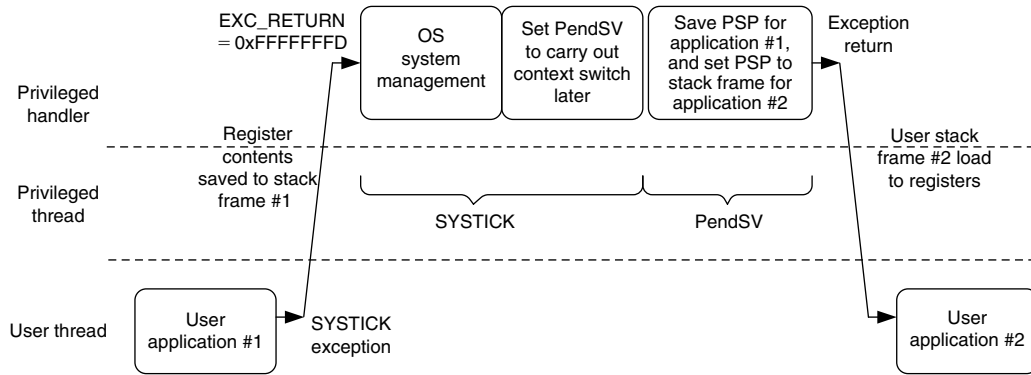

FIGURE 12.3
In most cases, EXC_RETURN modification and stack switching are included in the operating system (OS). After the user application starts, the SYSTICK exception can be used regularly to invoke the OS for system management and possibly arrange context switching, if needed (see Figure 12.3).